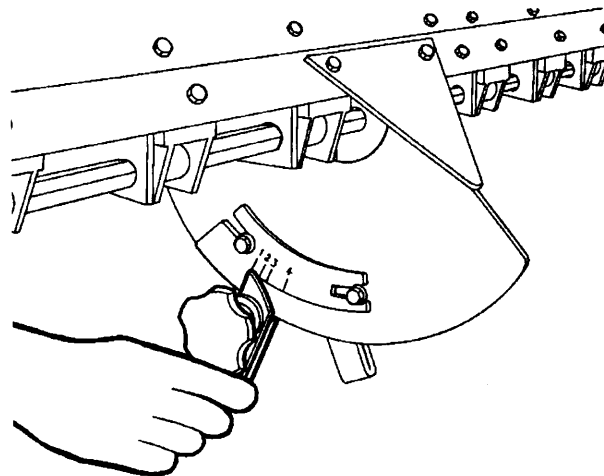

Figure 12 - Adjusting Gate Settings
- 2 Restrictors applied to the fluted rollers (refer to Figure 12).
- 3 Adjustable Gates under the fluted rollers (refer to Figure 12).
- b) Loosen the knurled knob (see figure 12), set the adjusting lever to the recommended position and retighten.